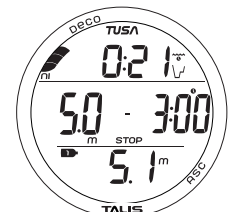

Fig. 62 - SS MAIN
Upon ascending to 20 FT (6 M) on any No Deco dive in which Depth exceeded 30 FT (9 M), a Safety Stop (SS) screen will appear (Fig. 62) displaying a recommended Stop at 15 FT (5 M) with a Timer that counts down from 3:00 to 0:00 (min:sec).